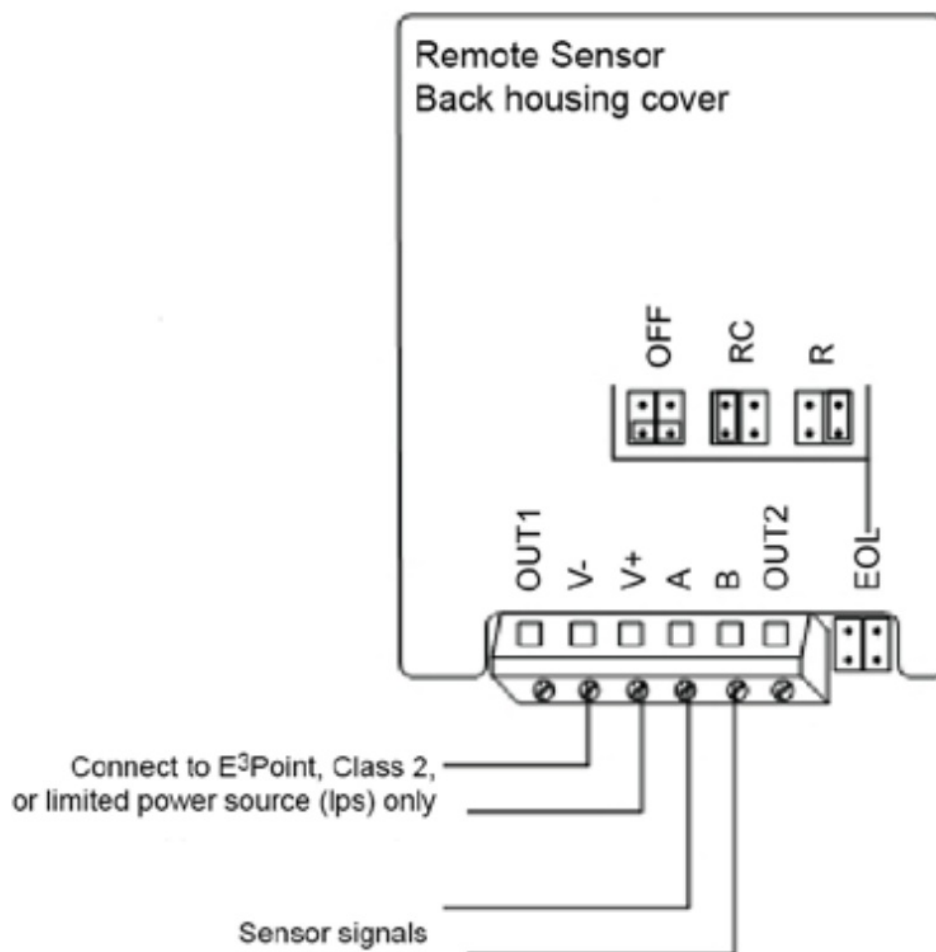

Figure 2. Connecting Main Sensor to Remote
- Run the wires through the electrical box and connect to the remote sensor (as indicated in Figure 2).
- Press the sensor (2) into the faceplate (1) and close and press the back cover (3) into the faceplate. You should hear a click.
- Securely mount the unit to the extra-wide electrical box (4) using the appropriate screws (5).